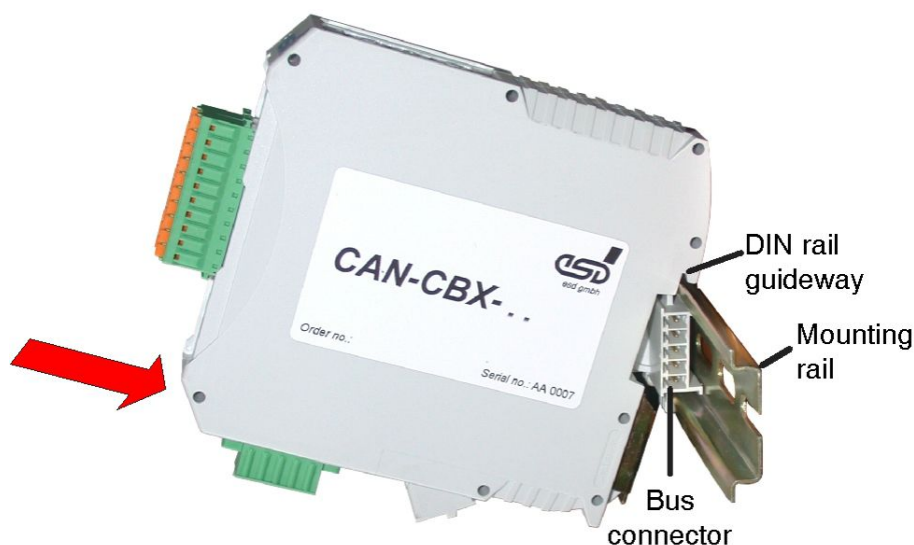

Figure. 13: Mounting CAN-CBX modules
3. Swivel the CAN-CBX module onto the mounting rail in pressing the module downwards according to the arrow as shown in figure 13. The housing is mechanically guided by the DIN rail bus connector.